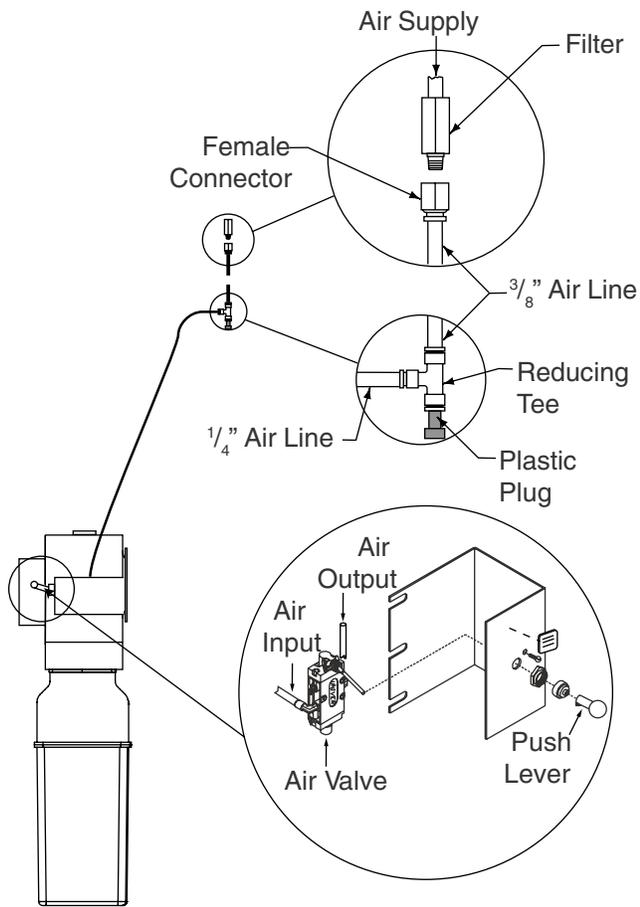

Fig. 24
- A. Connect air valve to Reducing Tee, Fig. 24. Cut provided $\frac{1}{4}$ " air line tubing with sharp blade to length as required. Tubing must be cut square with no burrs.
- B. Use Housing Collar to secure the Air Valve to the Air Valve Bracket, Fig. 24.
- E. Connect Reducing Tee to female connector, Fig. 24, using $\frac{3}{8}$ " air line tubing. Attach filter to female connector and connect into existing facility air supply. Make sure plastic plug is in bottom opening of Reducing Tee.